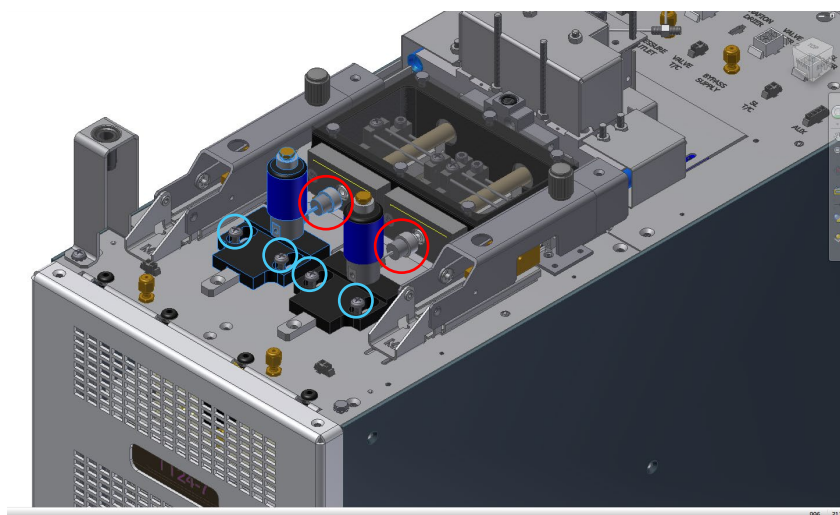
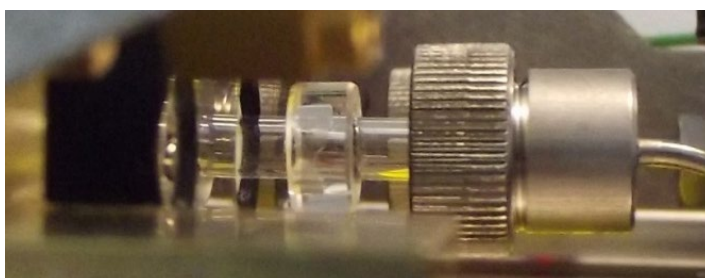

Figure 2: Trap pneumatics with brazed connector and screws highlighted.
Figure 3: Keeping components on the same plane.
- Carefully remove the pneumatics downstream of the cold traps by unscrewing the cold trap brazed connector (highlighted in red in Figure 2), loosening the screws either side of the trap pneumatics (highlighted in blue in Figure 2) and slowly pulling the trap pneumatics assembly towards the front of the instrument. Ensure that the trap pneumatics are kept in a horizontal plane during movement to minimise any damage to the cold trap (Figure 3).